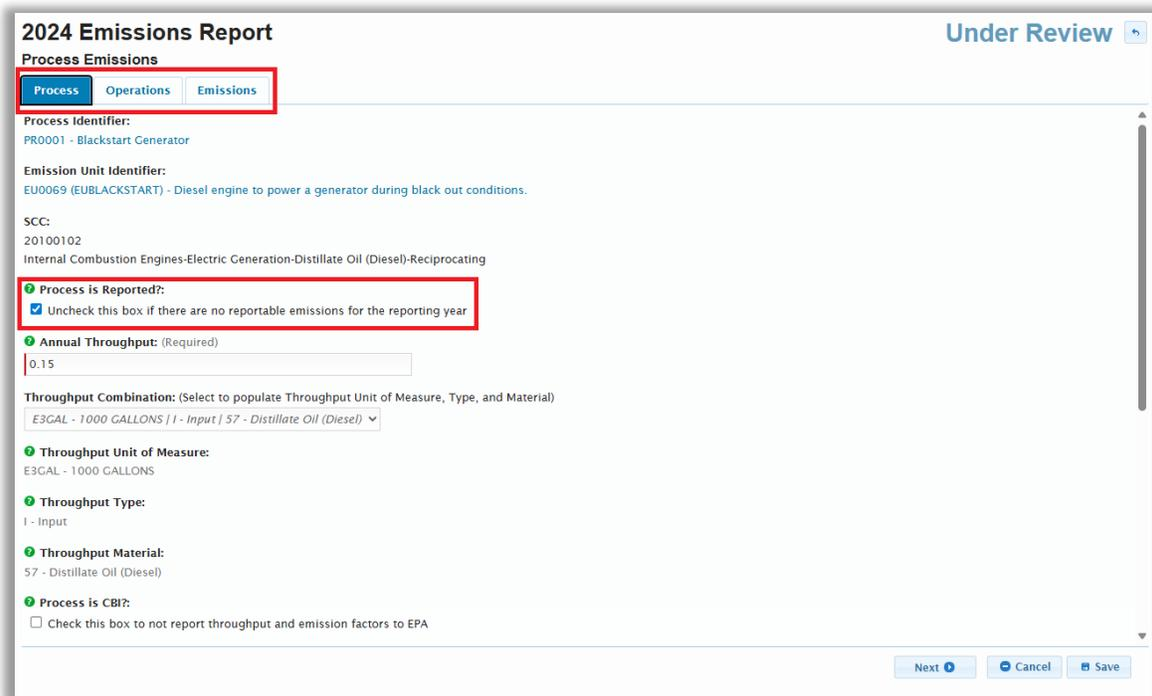

Figure 15-4 Tabs within Process Emissions tile
There are three tabs in the Process Emissions tile for each emission unit process on the list. **All the required data on all three tabs must be completed before the data can be saved.** See tabs in Figure 15-4.
- ❖ **Process is Reported?** The box defaults to being checked. See Figure 15-4. If the box is checked, the system will require you to report emissions. If you uncheck the box, the system will remove the pollutants and accompanying data on the Emissions tab. They will not repopulate if you change your mind later, or if the district inspector disagrees. Be sure that you do not have to report emissions for the process before unchecking the box. See Appendix C: Which Emission Units Need to Report Emissions.